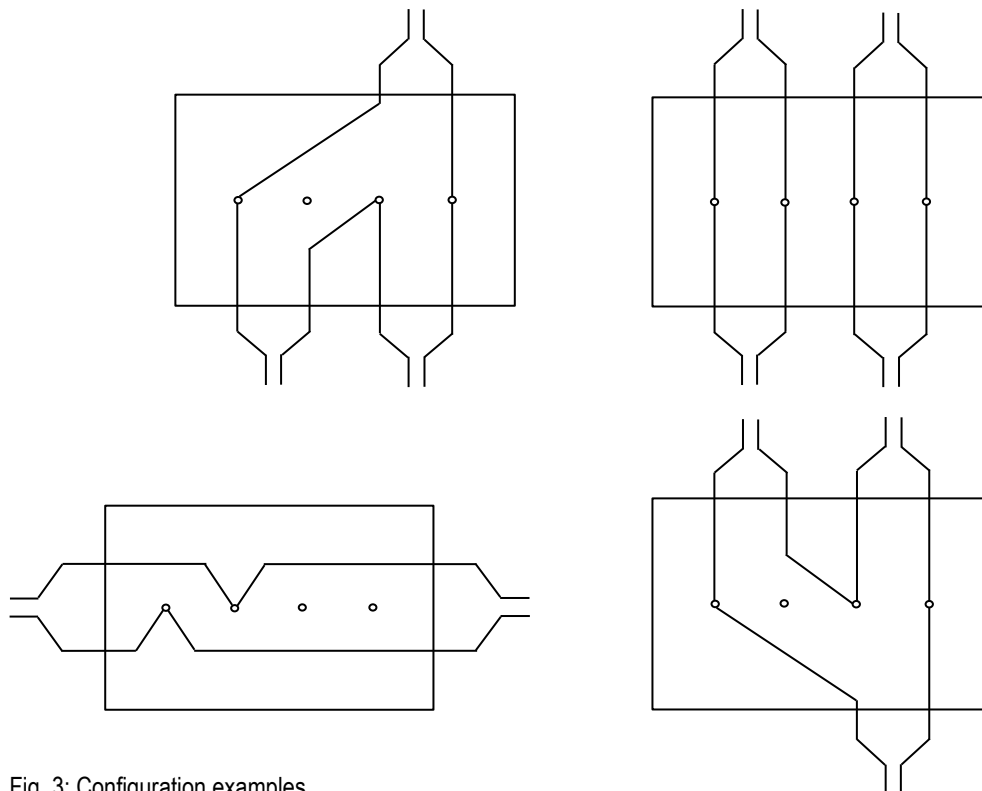

Fig. 3: Configuration examples
- The cables have to be wired directly to the mounting stud without forming any loops (see Fig. 3: Configuration examples).